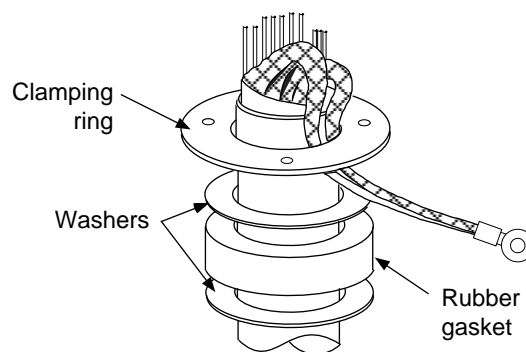

Figure 2-3 Passing cable shields between cable and clamping ring
- 8) Referring to Figure 2-3, pass the outer and inner shields between the signal cable and the clamping ring. Fasten the cable gland.